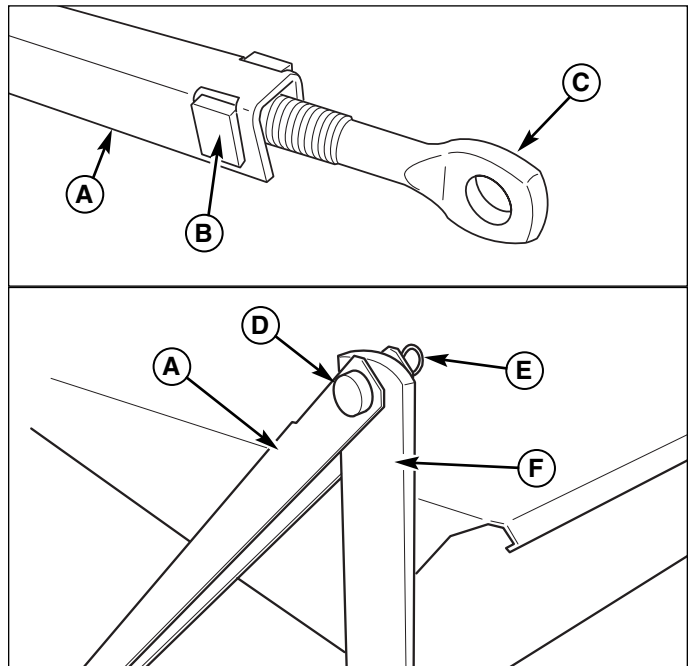

**Figure 31. Latch Rod Installation**
1. Assemble the ball joint (B, Figure 31) onto the end of the latch rod (A).
2. Assemble the ball joint (B) to the latch plate (C) and secure with the nut.
3. Adjust the rod length so the rod end is aligned with the hole on the box handle (D).
4. Install the latch rod in the box handle and secure with the hair pin (E).